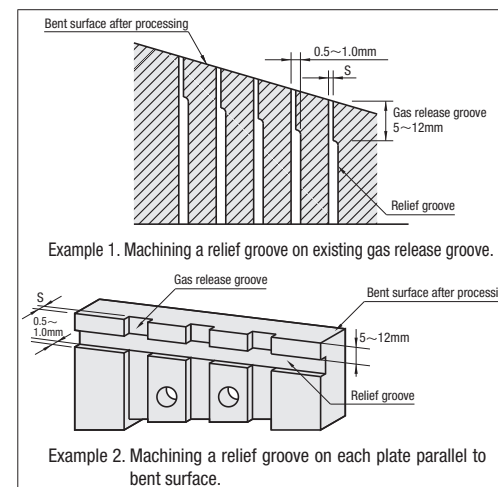

Figure 2: Cavity Inserts for Gas Release Example of relief groove addition
3. We recommend addition of relief groove in order to decrease resin plugging in gas release groove. Ideally, a relief groove should be added by alteration of 0.5~1.0mm thickness after leaving approximately 5~12mm of gas release groove section. (Figure 2)